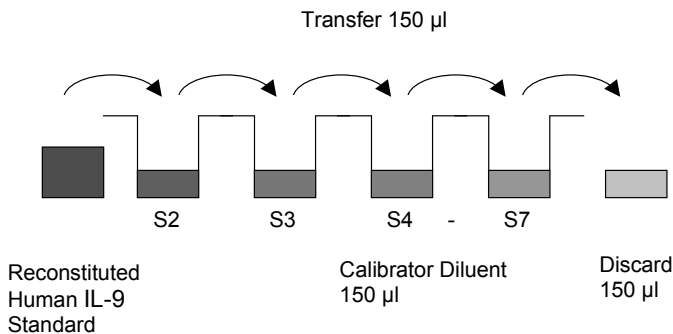

Fig. 6 External standard dilution
5. Repeat serial dilutions 4 more times thus creating the points of the standard curve (see Figure 6).